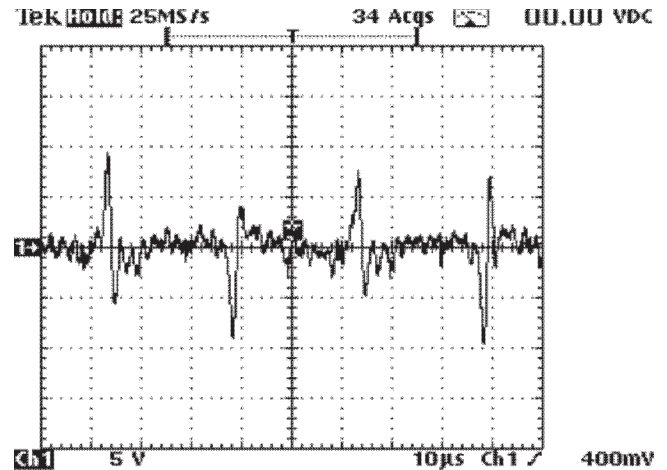

Figure 3.10. Typical crossover residual from distortion analyzer output
- The bias may be set excessively high. Calibrate the bias on the suspect channel as described in the test procedure. Figure 3.10 shows an acceptable crossover spike at the distortion analyzer output.